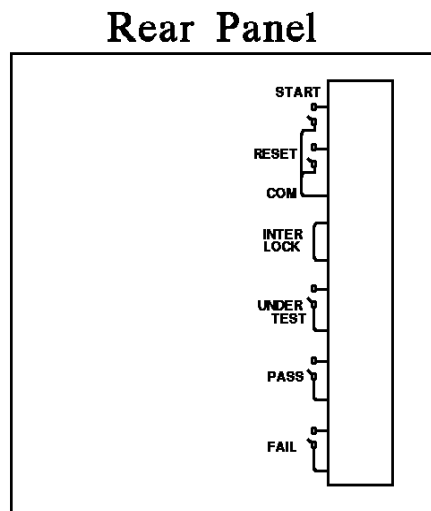

Figure 4-8
5. Pin diagram of REMOTE CONTROL as figure 4-8. When you want to control by external, please remember this pin diagram.